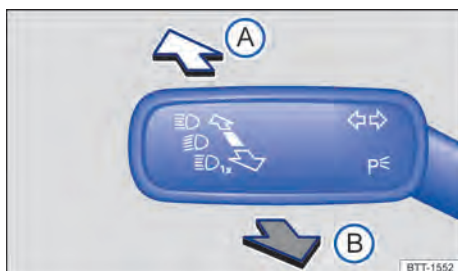

Fig. 83 On the left-hand side of the steering column: direction indicator and high beam lever.
2. Push the lever forwards from the centre position → Fig. 83.
1. Pull the lever back from the centre position → Fig. 83.
1. Pull the lever back from the centre position and hold → Fig. 83.